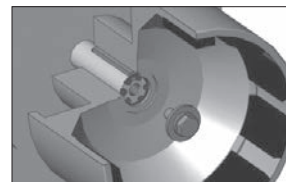

Figure 6 - IEC
Metric Motors: Secure the drive to the motor shaft using bolt, lock washer and flat washer (items 19, 20, 21). Thread the bolt into the end of the motor shaft (while holding the outer drive to prevent it from turning). See figure 6.